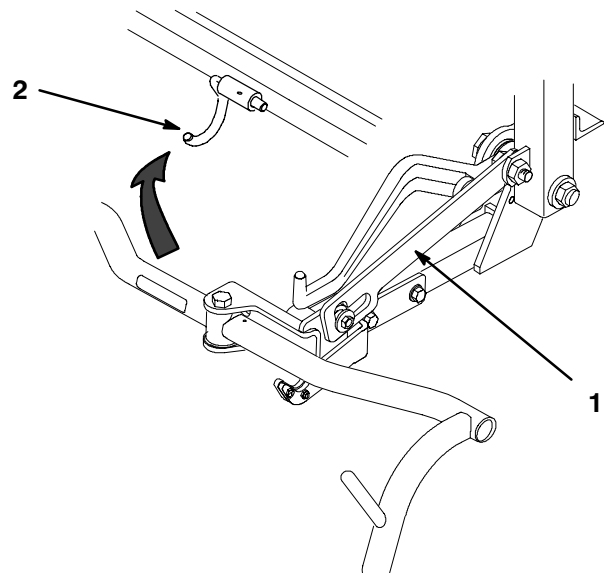

Figure 12
C. Lift up on the slotted link and rotate the pull frame into the wire hook (Fig. 12).